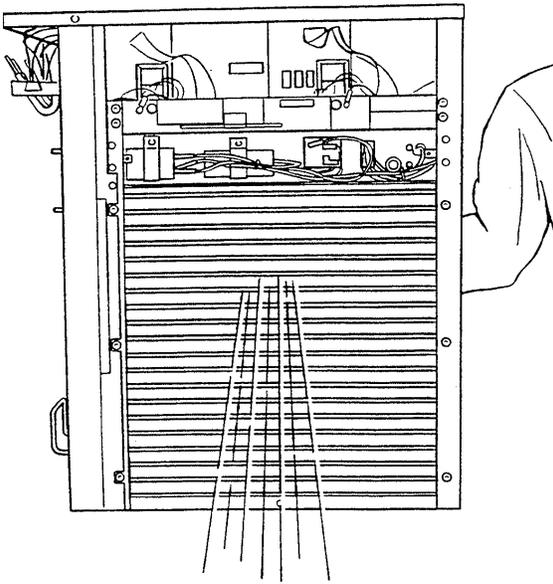

Figure 34. Condenser Inspection
3. Visually inspect the condenser for dirt by shining a light through the coil from the back (inside) of the condenser (Figure 34).